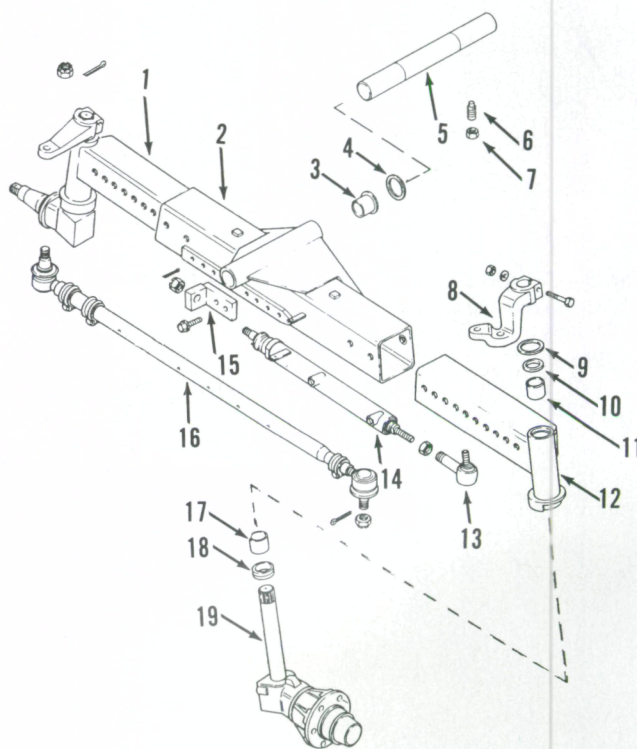

Fig. 2—Partially exploded view of front axle assembly used on all two-wheel-drive tractors.
2. REMOVE AND REINSTALL. To remove either steering knuckle, raise front of tractor and place a stand under axle extension. Remove wheel and tire assembly. Disconnect tie rod ball joint from steering arm (8—Fig. 2) and steering cylinder ball joint (13) from right steering arm. Support hub and steering knuckle and remove steering arm clamping bolt. Lift off steering arm and shims (9). Lower steering knuckle from axle extension (12).
4. **REMOVE AND REINSTALL.** To remove the axle main member (2—Fig. 2), engage park brake and securely block rear wheels. Remove front weights and bracket, if so equipped. Disconnect steering tube clamp, then disconnect steering tubes from steering cylinder (14). Raise and support front of tractor and place a floor jack under axle main member. Remove steering cylinder and tie rod. Unbolt and remove axle extensions (1 and 12) with steering knuckles, wheel and hub assemblies. Remove protective plug in front of pivot pin (5). Loosen locknut (7) and Allen set screw (6). Using a slide hammer and adapter (CAS-2014), pull pivot pin forward from axle main member and front support. Remove shims (4) from in front and rear of axle main member as pivot pin is removed. Lower axle main member from tractor.